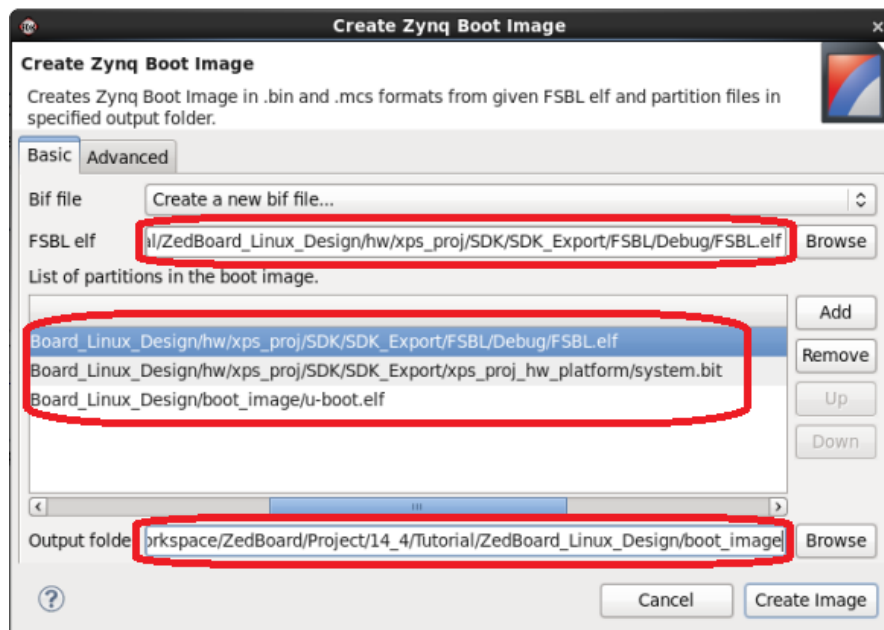

Figure 36. Create Zynq Boot Image Configuration
**III-10** In the Create Zynq Boot Image window (as shown in Figure 36), Click **Browse** to set the path for **FSBL elf**. Click **Add** to add the `system.bit` file found at `ZedBoard_Linux_Design/hw/xps_proj/SDK/SDK_Export/xps_proj_hw_platform/.C` Click **Add** to add the `u-boot.elf` file found at `ZedBoard_Linux_Design/boot_image/`. It is very important that the 3 files are added in this order, or else the FSBL will not work properly (the proper order can be seen in Figure 36). In this tutorial, the `boot_image` folder is set as output folder for the BIN file. Click **Create Image**.